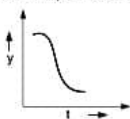

Fig. 1.1 : Over damped oscillation
- Example of such oscillation is pendulum in thick oil. Fig. 1.1 shows over damped oscillation.